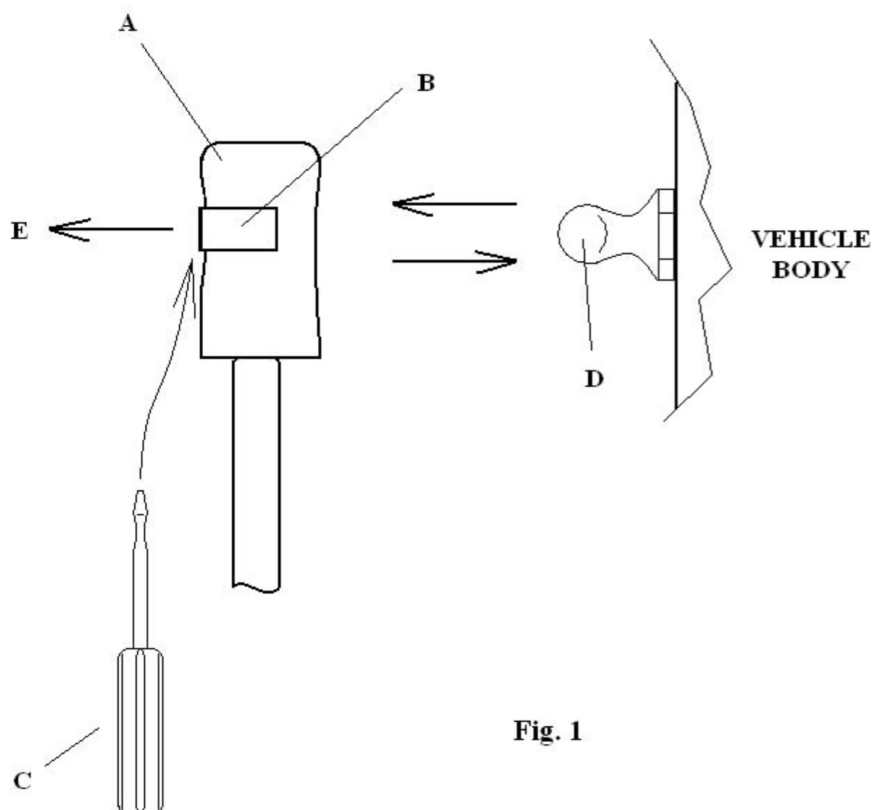

Fig. 1
3. Begin removing the gas spring end closest to the vehicle body then proceed to the opposite end. Refer to Fig. 1 page 2 use a 1/8" narrow blade screw driver "C" and slip under spring clip "B" of the gas spring connector end "A". While lifting out spring clip "B" to approximately 1/16" to 1/8" pull out on the gas spring connector in the direction "E" away from the vehicle body and off ball stud "D". The rear door may need to be lifted or dropped slightly at this point to help facilitate the removal of the gas spring connector "A".